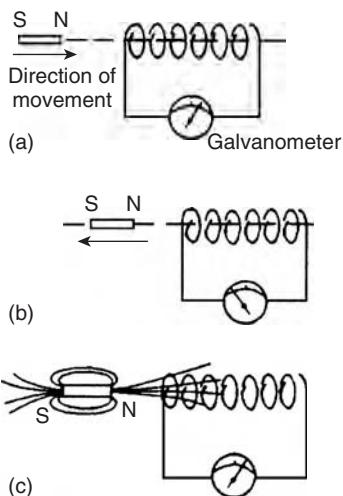

Figure 9.1
Figure 9.1(a) shows a coil of wire connected to a centre-zero galvanometer, which is a sensitive ammeter with the zero-current position in the centre of the scale.
- (a) When the magnet is moved at constant speed towards the coil (Fig. 9.1(a)), a deflection is noted
- (b) When the magnet is moved at the same speed as in (a) but away from the coil the same deflection is noted but is in the opposite direction (see Fig. 9.1(b))
Figure 9.1(c) shows the magnetic field associated with the magnet. As the magnet is moved towards the coil, the magnetic flux of the magnet moves across, or cuts, the coil. **It is the relative movement of the magnetic flux and the coil that causes an e.m.f. and thus current, to be induced in the coil.** This effect is known as electromagnetic induction. The laws of electromagnetic induction stated in section 9.2 evolved from experiments such as those described above.